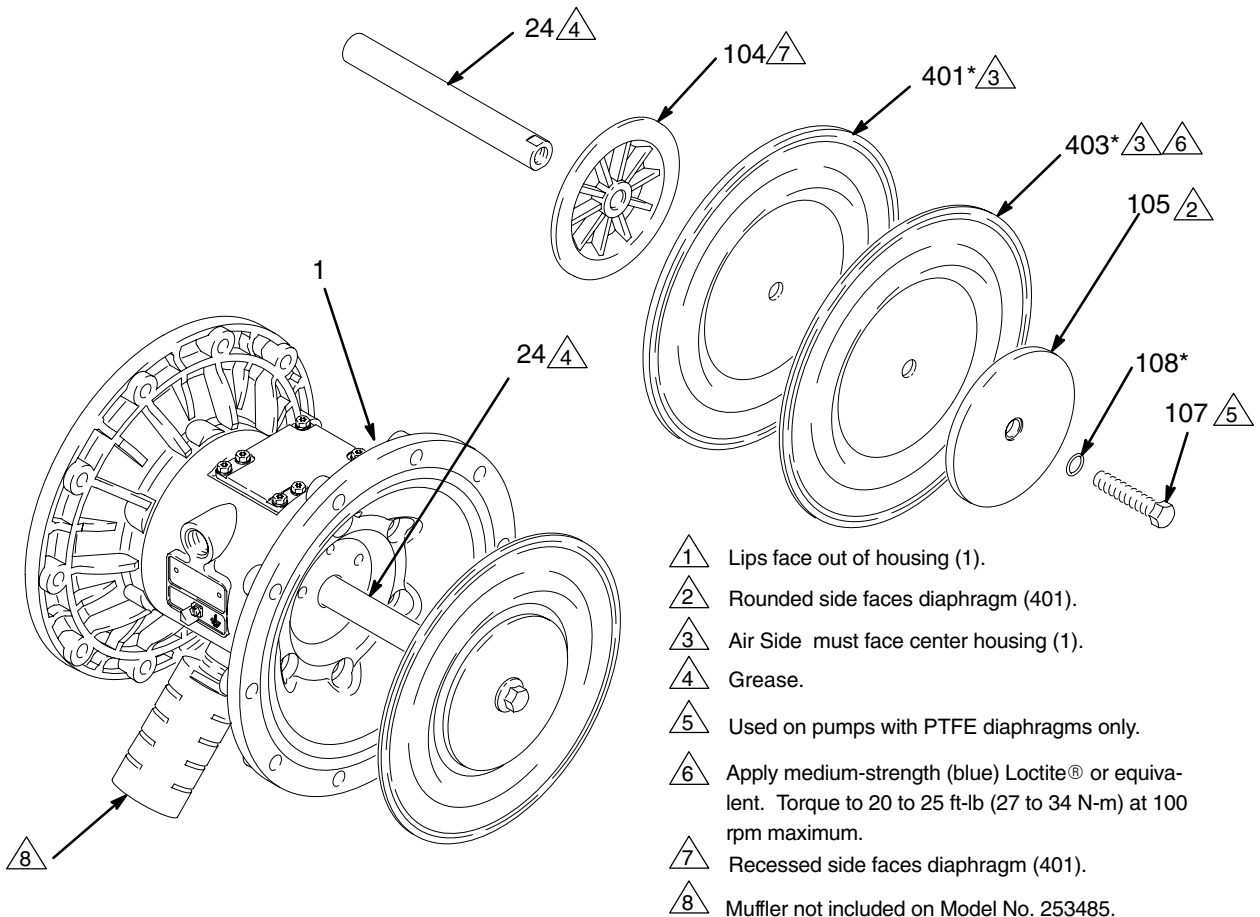
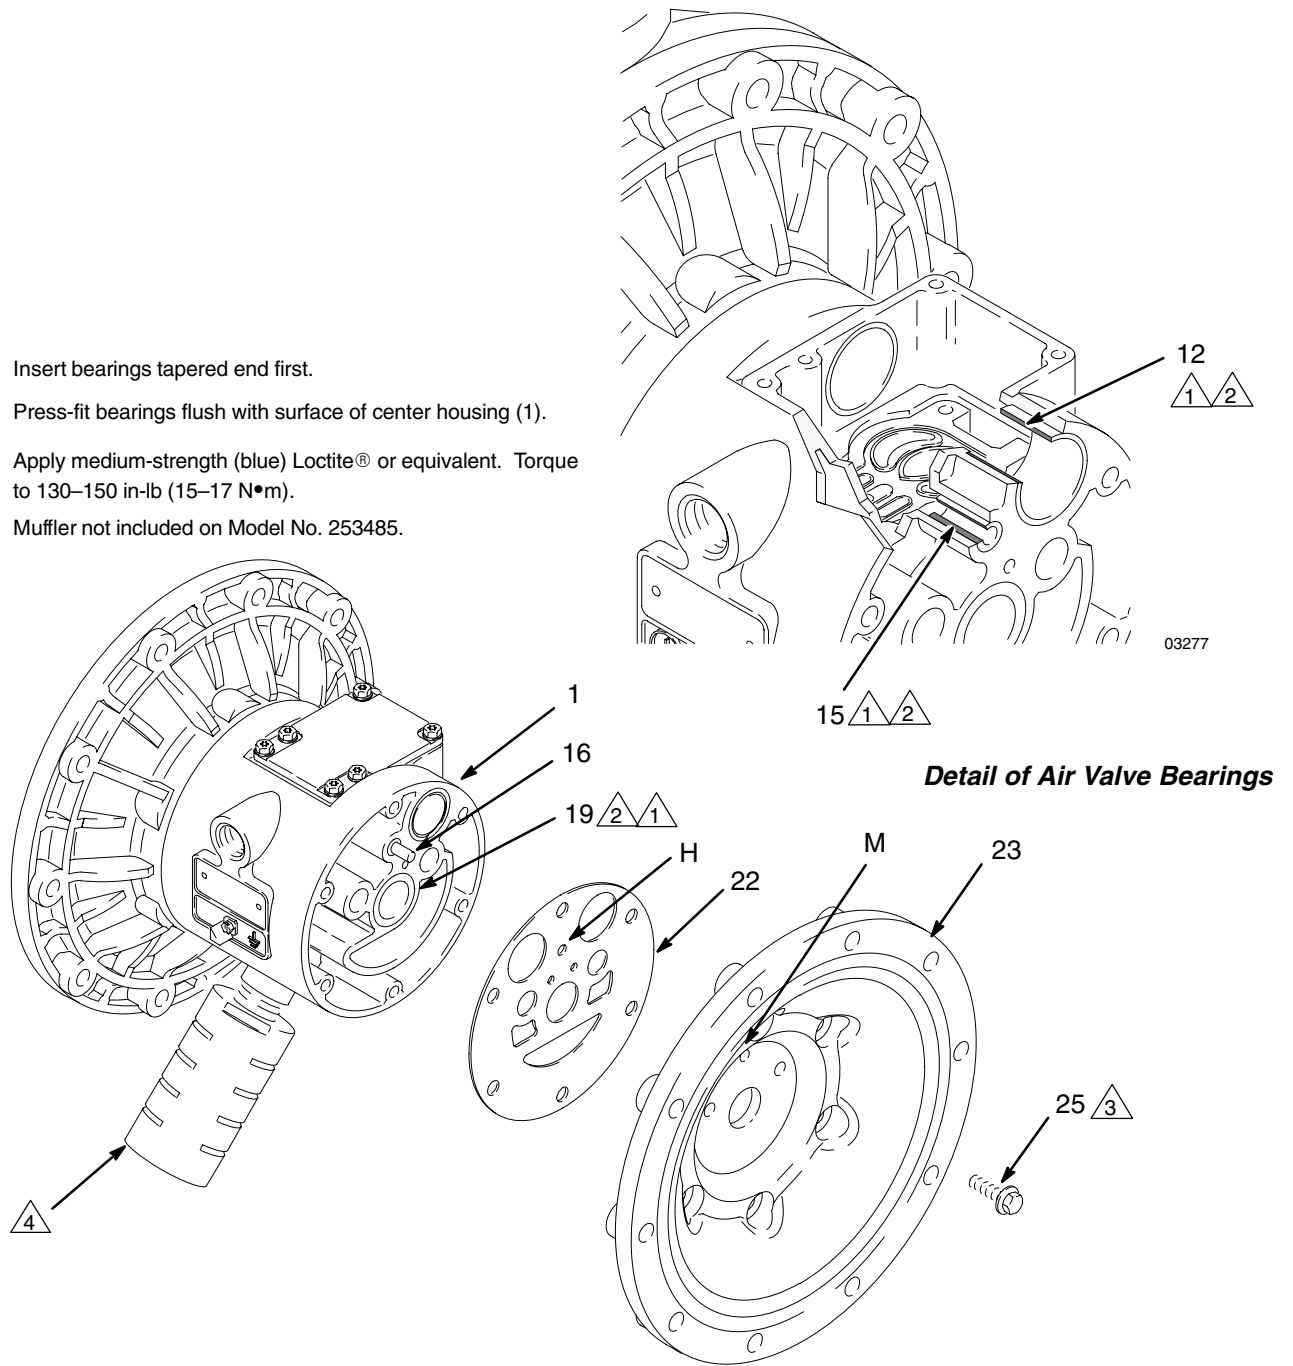

Fig. 12
Fig. 13
4. Loosen but do not remove the diaphragm shaft bolts (107), using a 15 mm socket wrench (1 in. on stainless steel models) on both bolts.
5. Unscrew one bolt from the diaphragm shaft (24) and remove the o-ring (108), fluid side diaphragm plate (105), PTFE diaphragm (403, *used on PTFE models only*), diaphragm (401), and air side diaphragm plate (104). See Fig. 12.
6. Pull the other diaphragm assembly and the diaphragm shaft (24) out of the center housing (1). Hold the shaft flats with a 19 mm open-end wrench, and remove the bolt (107) from the shaft. Disassemble the remaining diaphragm assembly.
7. Inspect the diaphragm shaft (24) for wear or scratches. If it is damaged, inspect the bearings (19) in place. If the bearings are damaged, refer to page 20.
8. Reach into the center housing (1) with an o-ring pick and hook the u-cup packings (402), then pull them out of the housing. This can be done with the bearings (19) in place.
1. Install the shaft u-cup packings (402*) so the lips face **out** of the housing (1). Lubricate the packings. See Fig. 12.
2. Install the diaphragm assembly on one end of the shaft (24) as follows:
- a. Install the o-ring (108*) on the shaft bolt (107).
- b. Install the fluid side diaphragm plate (105) on the bolt so the rounded side faces in, toward the diaphragm (401).
- c. *On PTFE models only*, install the PTFE diaphragm (403*). Make certain the side marked AIR SIDE faces the center housing (1).
- d. Install the diaphragm (401*) on the bolt. Make certain the side marked AIR SIDE faces the center housing (1).
- e. Install the air side diaphragm plate (104) so the recessed side faces the diaphragm (401).
- f. Apply medium-strength (blue) Loctite® or equivalent to the bolt (107) threads. Screw the bolt (107) into the shaft (24) hand tight.
3. Grease the length and ends of the diaphragm shaft (24), and slide it through the housing (1).
5. Hold one shaft bolt (107) with a wrench and torque the other bolt to 20–25 ft-lb (27–34 N•m) at 100 rpm maximum.
- NOTE:** If you are removing only the diaphragm shaft bearing (19), skip step 4.
5. Using a 10 mm socket wrench, remove the screws (25) holding the air covers (23) to the center housing (1). See Fig. 13.
6. Remove the air cover gaskets (22). Always replace the gaskets with new ones.
7. Use a bearing puller to remove the diaphragm shaft bearings (19), air valve bearings (12) or pilot pin bearings (15). Do not remove undamaged bearings.
8. If you removed the diaphragm shaft bearings (19), reach into the center housing (1) with an o-ring pick and hook the u-cup packings (402), then pull them out of the housing. Inspect the packings. See Fig. 12.
1. If removed, install the shaft u-cup packings (402*) so the lips face **out** of the housing (1).
2. The bearings (12, 15, and 19) are tapered and can only be installed one way. Insert the bearings into the center housing (1), **tapered end first**. Using a press or a block and rubber mallet, press-fit the bearing so it is flush with the surface of the center housing.
4. Align the new air cover gasket (22) so the pilot pin (16) protruding from the center housing (1) fits through the proper hole (H) in the gasket.
5. Align the air cover (23) so the pilot pin (16) fits in the middle hole (M) of the three small holes near the center of the cover. Apply medium-strength (blue) Loctite® or equivalent to the threads of screws (25), and install the screws handtight. See Fig. 13. Using a 10 mm socket wrench, torque the screws oppositely and evenly to 130–150 in-lb (15–17 N•m).